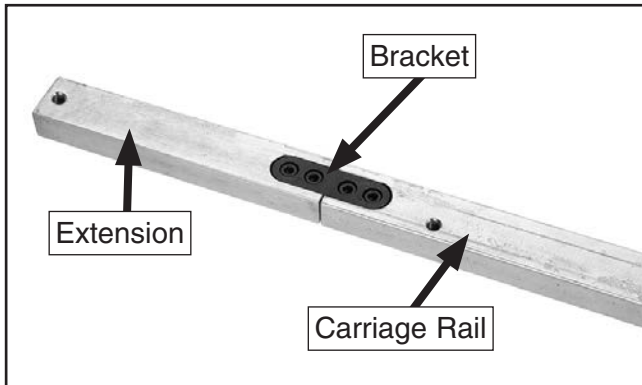
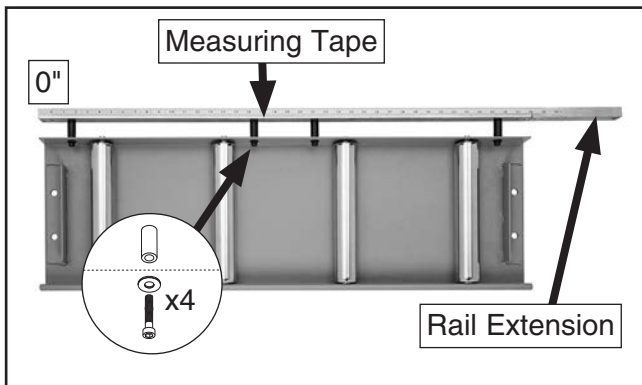

Figure 3. Rail extension attached to carriage rail.
Figure 4. Roller table with extended rail.
1. Attach rail extension to carriage rail with extension bracket and (4) M6-1 x 12 cap screws (see **Figure 3**). Attach rail extension to side of carriage rail shown in **Figure 4**, as it will need clearance when rail is attached to machine.
2. Attach carriage rail to roller table using (4) M8-1.25 x 55 cap screws, (4) 8mm washers, and (4) spacers (see **Figure 4**).
3. Unroll measuring tape and affix to the full measuring rail assembled in **Step 2**. Take care to line up the edge, beginning at 0" (see **Figure 4**).